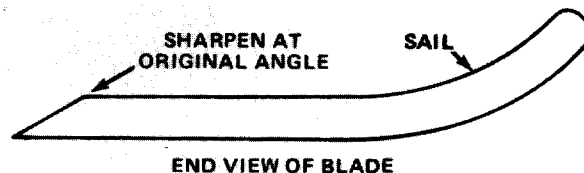

Figure 14
2. Inspect cutting edges of all blades. Sharpen the cutting edges if they are dull or nicked. Sharpen only the top of the cutting edge and maintain the original cutting angle to make sure of sharpness (Fig. 14). The blade will remain balanced if same amount of metal is removed from both cutting edges.